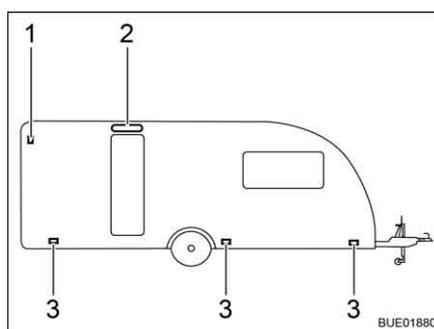

Fig. 219 Side lights
The marker lights (Fig. 219,3) are fitted in the lower part of the side wall of the vehicle.
The side marker light (Fig. 219,1) is fitted in the upper part of the side wall of the vehicle.
**Awning light** The awning light (Fig. 219,2) is fitted in the upper part of the side wall of the vehicle.